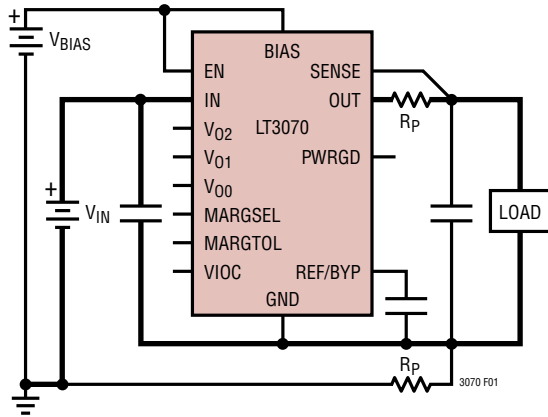

Figure 1. Kelvin Sense Connection
**SENSE (Pin 19):** Kelvin Sense for OUT. The SENSE pin is the inverting input to the error amplifier. Optimum regulation is obtained when the SENSE pin is connected to the OUT pins of the regulator. In critical applications, the resistance ( $R_P$ ) of PCB traces between the regulator and the load cause small voltage drops, creating a load regulation error at the point of load. Connecting the SENSE pin at the load instead of directly to OUT eliminates this voltage error. Figure 1 illustrates this Kelvin-Sense connection method. Note that the voltage drop across the external PCB traces adds to the dropout voltage of the regulator. The SENSE pin input bias current depends on the selected output voltage. SENSE pin input current varies from  $50\mu\text{A}$  typically at  $V_{OUT} = 0.8\text{V}$  to  $300\mu\text{A}$  typically at  $V_{OUT} = 1.8\text{V}$ .